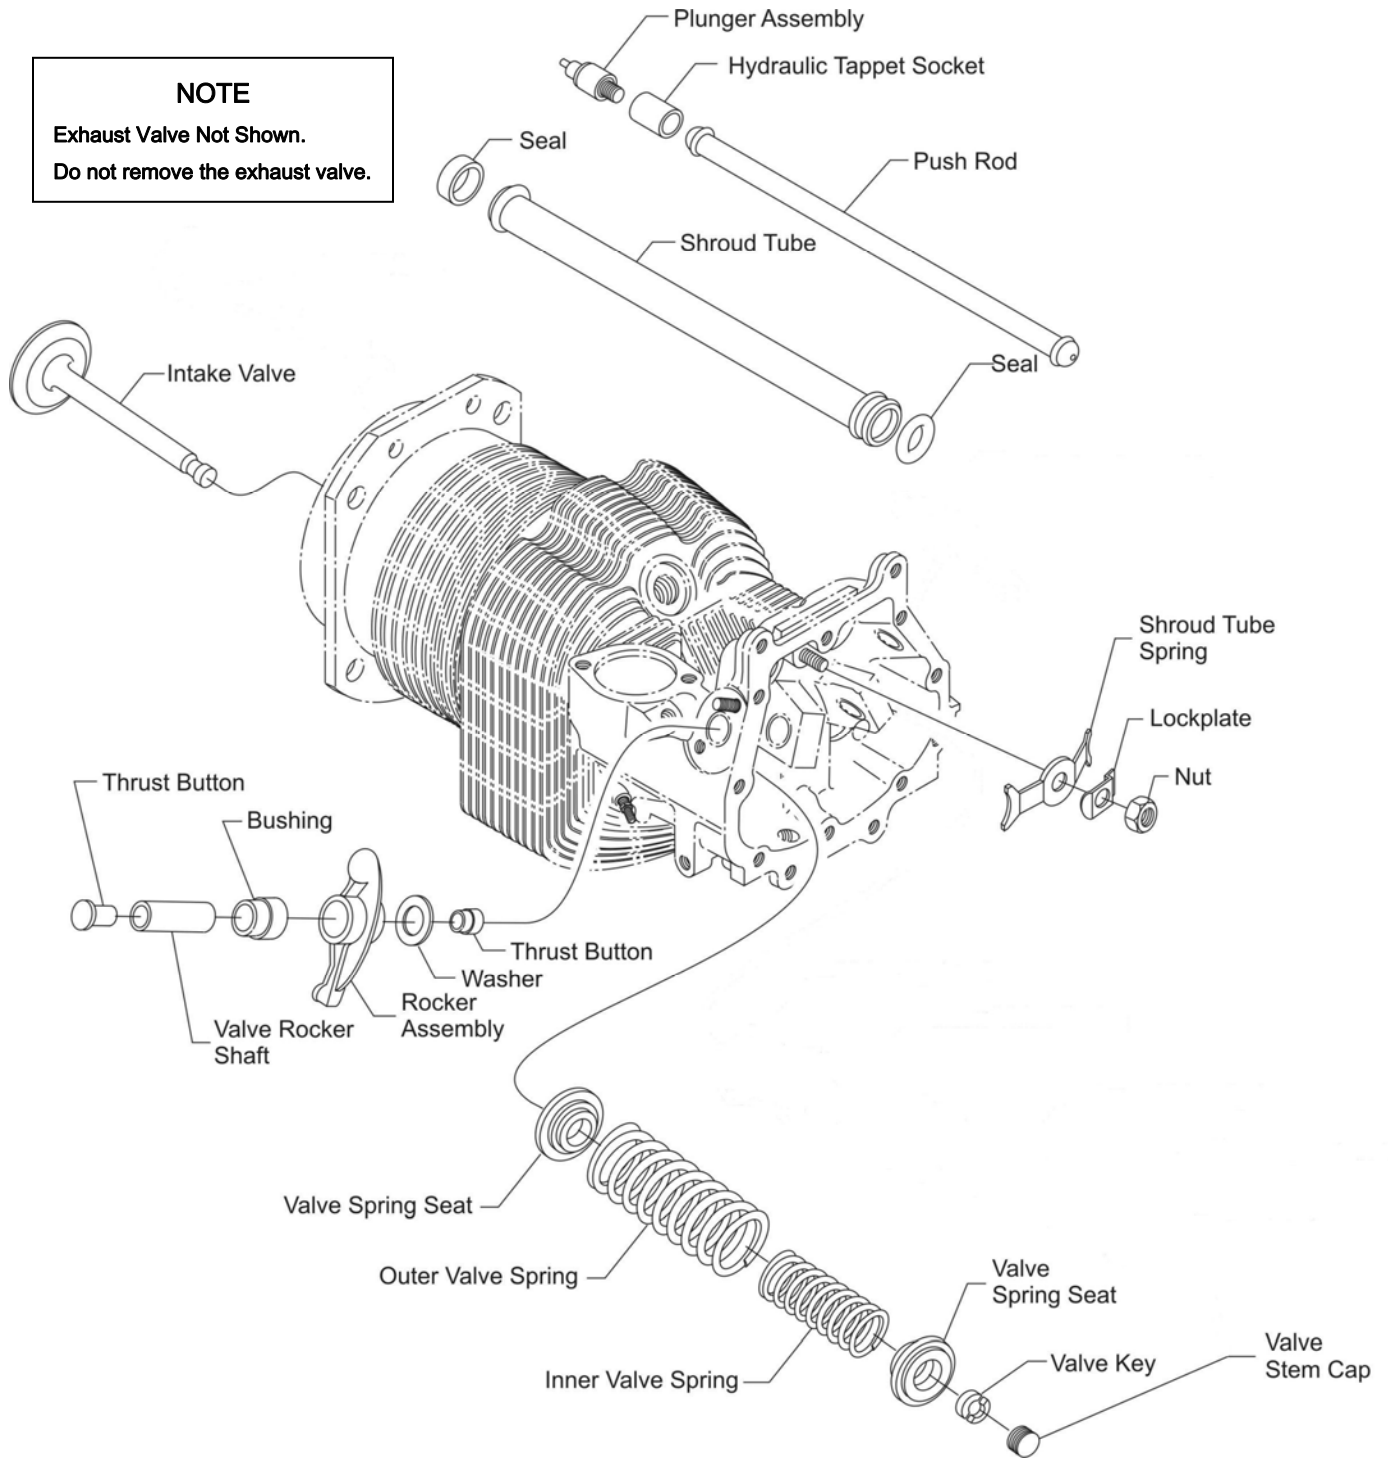

Figure 1
5. Remove the rocker shaft (Figure 1), rocker arm, valve stem cap, push rod, shroud tube, and tappet socket. Remove and discard the shroud seals.
16. Install the tappet socket (Figure 1), shroud tube with new shroud seals, push rod, valve stem cap, rocker arm and rocker shaft on the engine cylinder with fastening hardware.